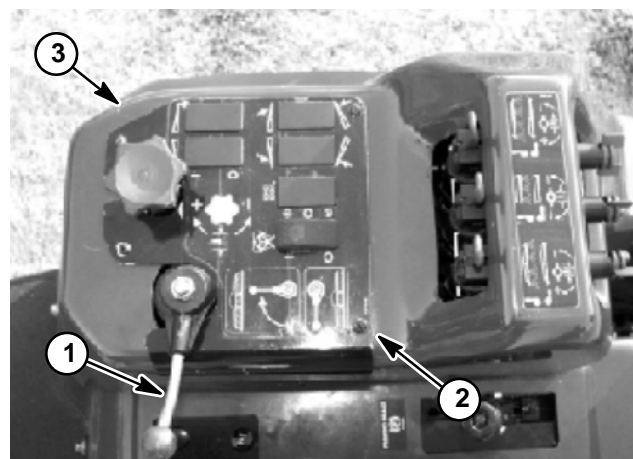

Figure 28
2. Remove master boom valve handle, spray control panel and spray console from machine (Fig. 28).
3. Install spray console, spray control panel and master boom valve handle to machine (Fig. 28).